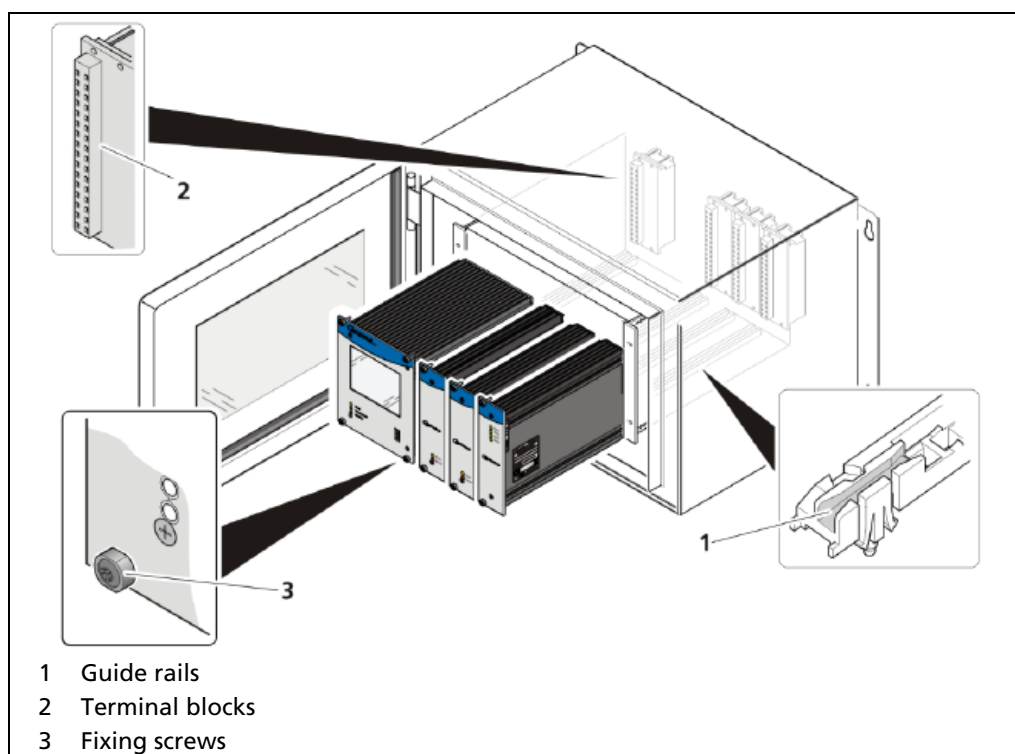

Fig. 10 Installation of the modules (example)
- ▶ The master EVUs, slave modules, 7-Wire/RS485-Repeater modules and Current Output/HART modules must be secured against falling out by fixing screws (Fig. 10, item 4).
1. Set modules into the guide rails (Fig. 10, item 1) and push it gently until the plug connector of the module is inserted into the terminal block (Fig. 10, item 2).
2. Tighten all fixing screws (Fig. 10, item 3).